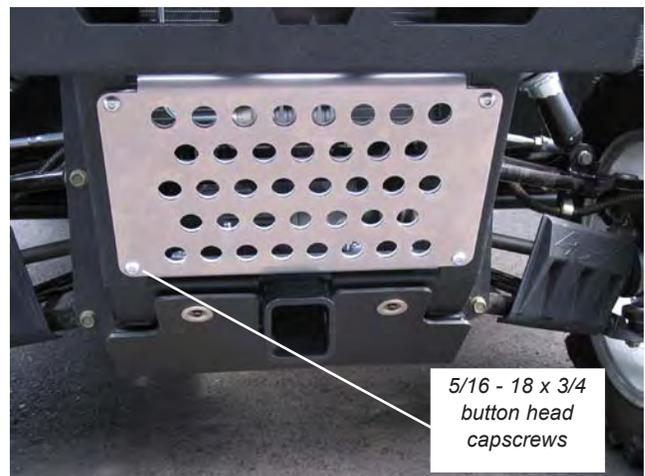

Figure 6
6. Attach aluminum grille plate to front of bumper as shown in Figure 6 using four 5/16 - 18 x 3/4 button head capscrews, four 5/16 lock washers and four 5/16 - 18 hex nuts. Firmly tighten hardware in place. Torque to recommended specifications of 17lb. ft. (12.5 N-m).